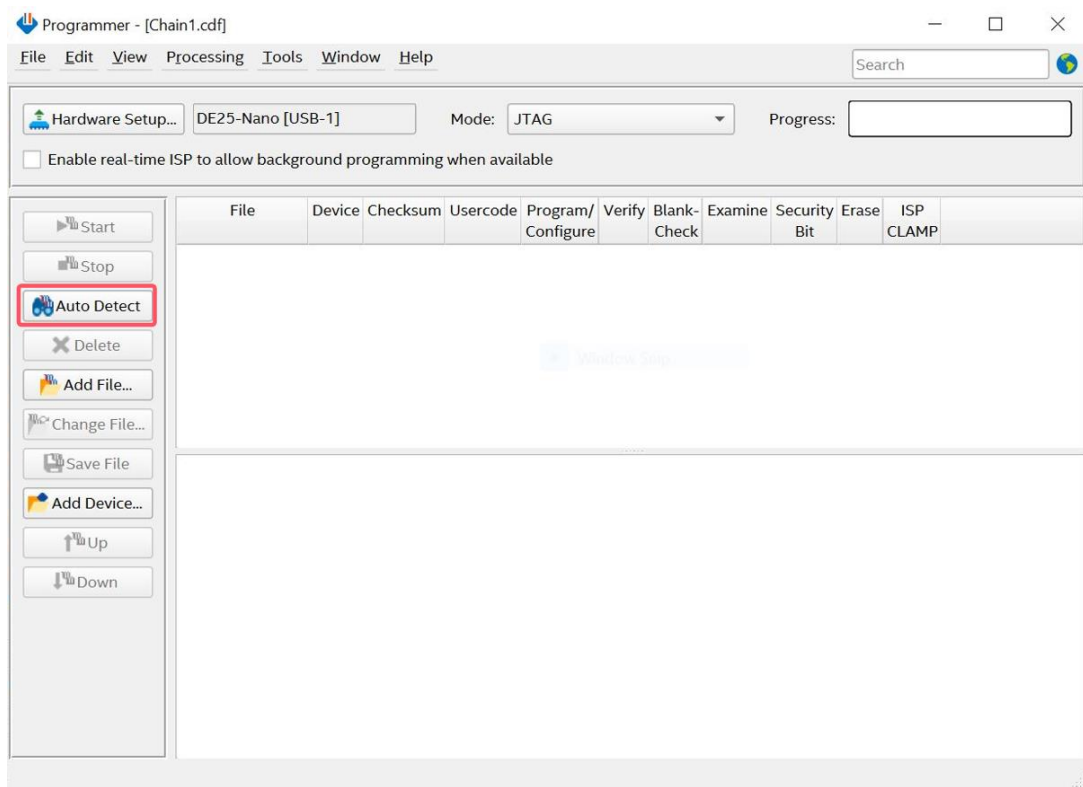

Figure 4-4 Auto detect FPGA device
5. Click “Auto Detect”, as shown in **Figure 4-4**.